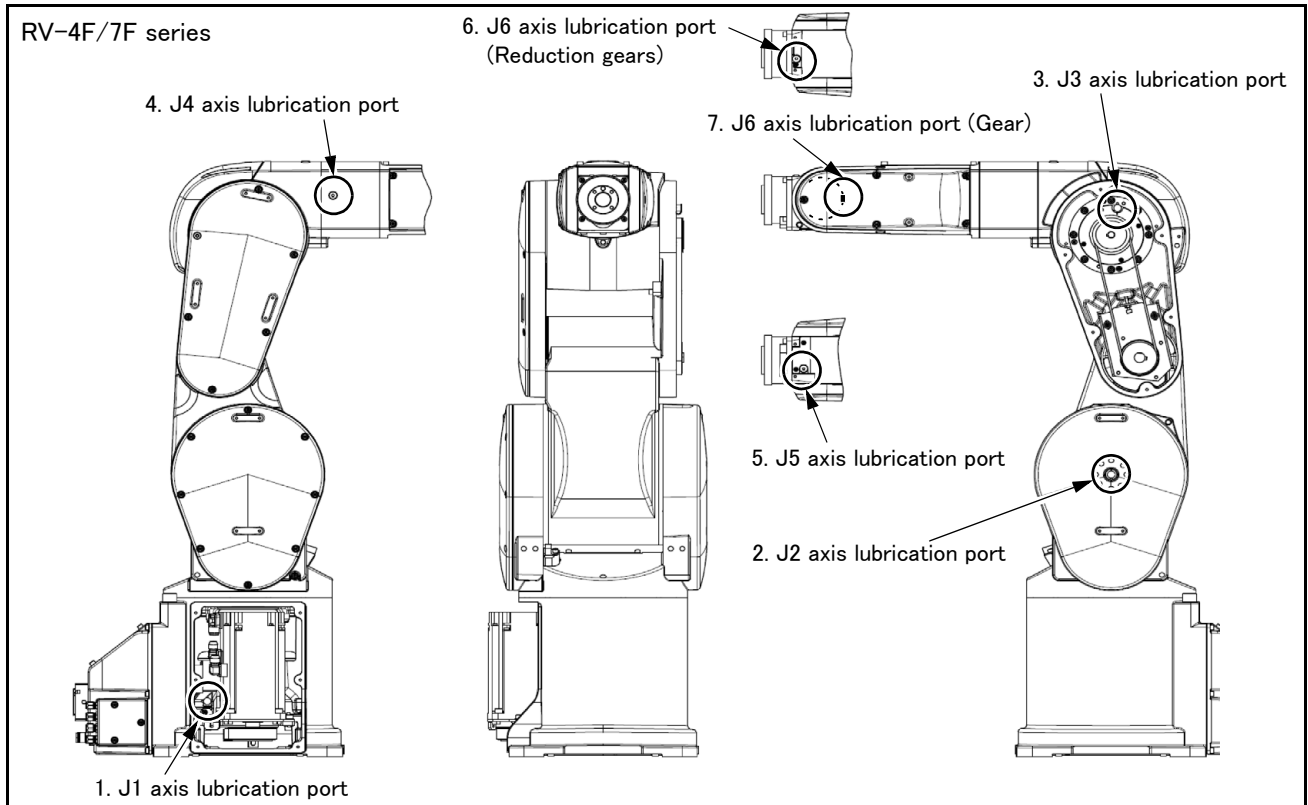
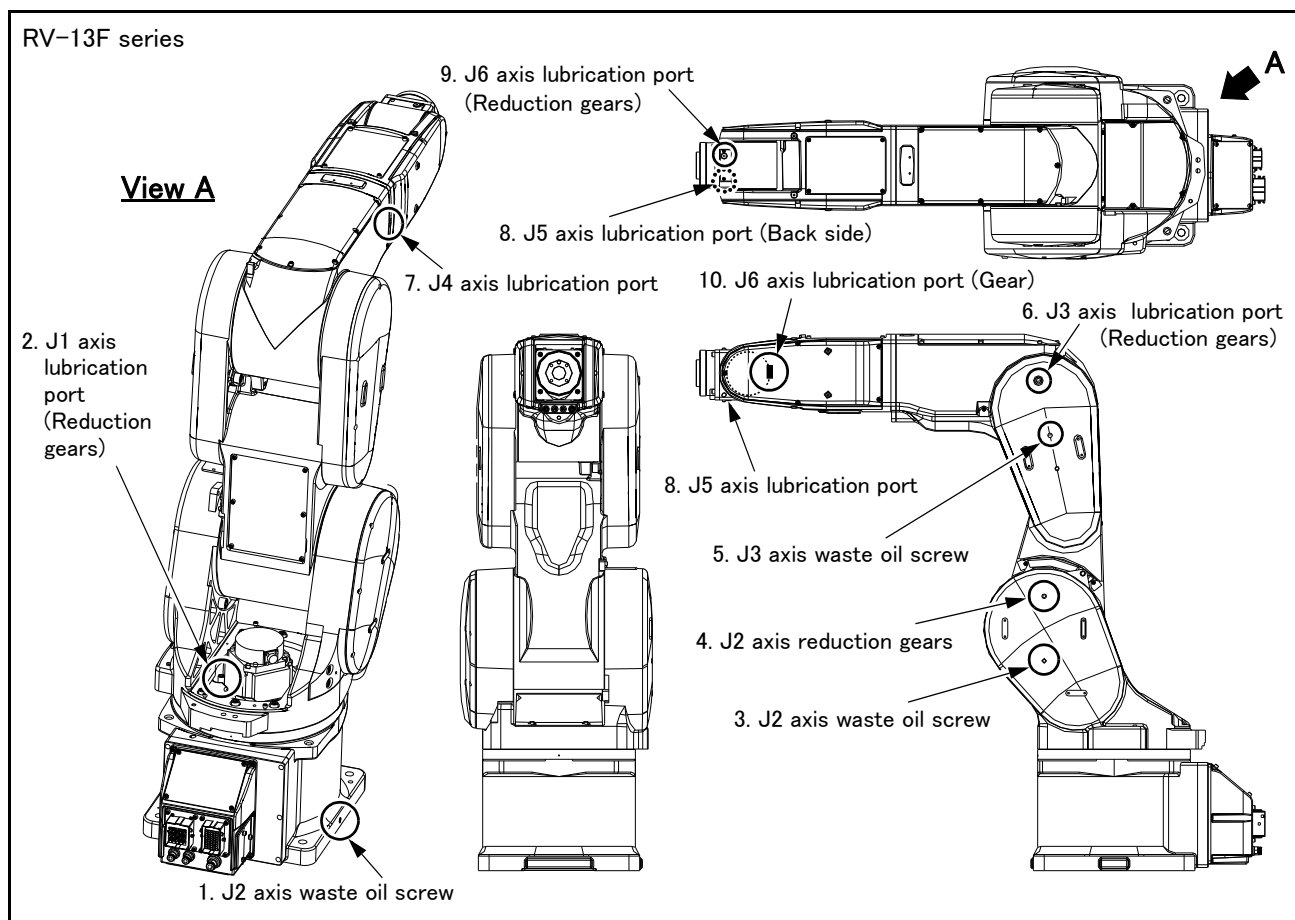

Fig.5-15 : Lubrication positions (RV-4F/7F series)
Fig.5-16 : Lubrication positions (RV-13F series)
The grease nipple position is shown in Fig. 5-15 (RV-4F/7F series) or Fig. 5-16 (RV-13F series). The lubrication specifications for each place are shown in Table 5-4. Refer to the Page 82, "5.3.2 Installing/removing the cover" for the method of removing and installing the cover.
- The numbers in the Table 5-4 correspond to the supply positions in Fig. 5-15 (RV-4F/7F series) or Fig. 5-16 (RV-13F series).
(2) Lubrication method
- 1) Set the robot to the posture shown in Fig. 5-15 (RV-4F/7F series) or Fig. 5-16 (RV-13F series).